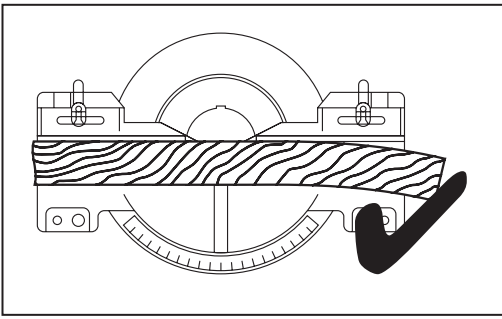

FIG. 31
7.7 CUTTING CURVED OR WARPED MATERIAL – FIGS.31 – 32